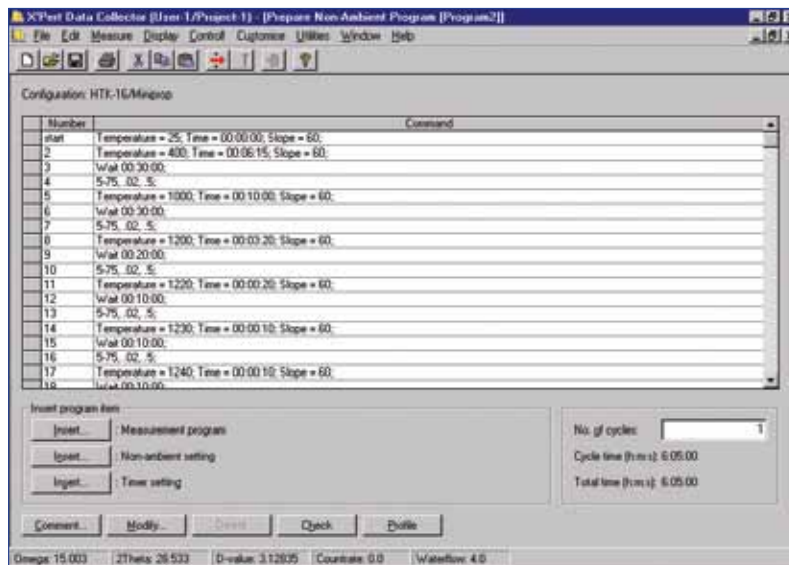

Figure 38. Creating a non-ambient analysis program.
Keep inserting these three parameters in that order to build up your profile (Figure 38).
- a *measurement (absolute scan) program*.Keep inserting these three parameters in that order to build up your profile (Figure 38).